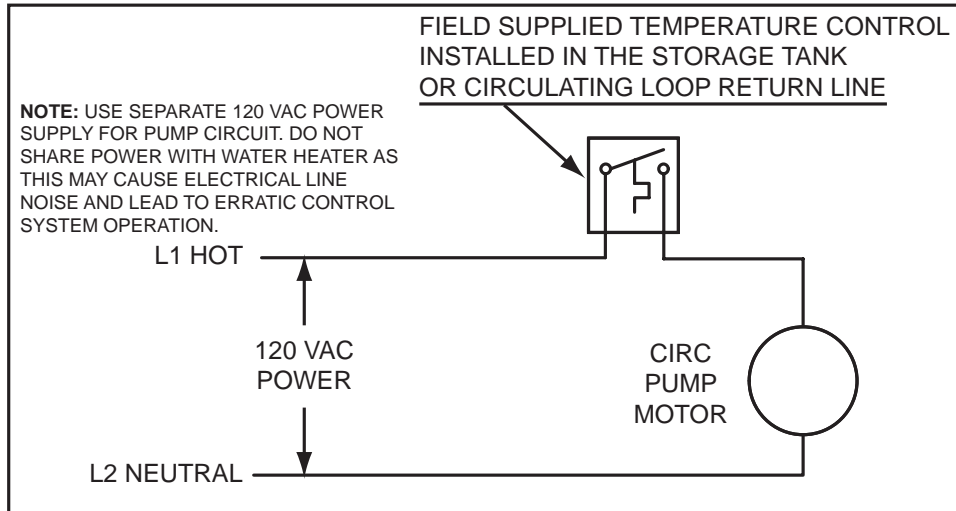

Figure 68. Circulating Pump Wiring Diagram - Storage Tank or Building Recirculation
6. If a pump is being installed between a water heater and storage tank or on a building recirculation loop wire according to Figure 68 (page 71).